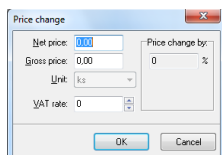

Fig. 295 – changing a cabinets price
- **Modification of the price of an element** – icon (Fig. 295)